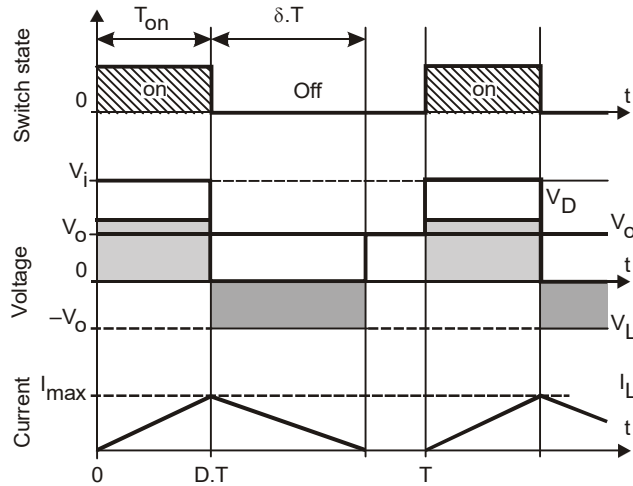

Fig. 5.7: Evolution of the voltages and currents with time in an ideal buck converter operating in discontinuous mode.
A buck converter is said to be operated in discontinuous mode if the current through the inductor (I_L) falls to zero for some duration of the commutation cycle. A buck converter is operated in this mode only when the amount of energy required by the load is too small. The only difference in the principle described above is that the inductor is completely discharged at the end of the commutation cycle as shown in figure 5.7. However, it affects on some of the previous equations.
- Still it is considered that the converter operates in steady state. Therefore, the energy in the inductor is considered to be the same at the beginning as well as at the end of the cycle (here in discontinuous mode, it is zero). This means that the average value of the inductor voltage (V_L) is zero; *i.e.* the area of the light and dark rectangles in Fig. 5.7 are the same.
- It can be seen in Fig 5.7 that the inductor current waveform has a triangular shape. Therefore, the average value of I_L can be sorted out geometrically as follow: